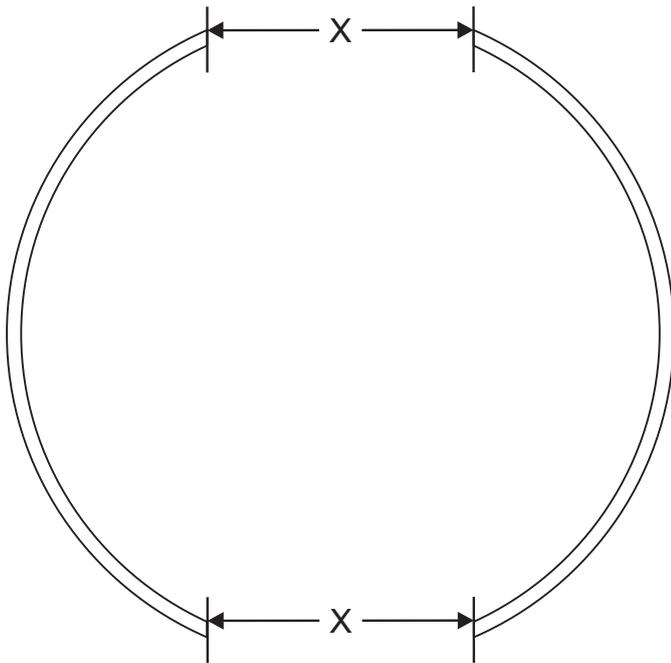

Fig. 39 Check clearance
- Check clearance X (Fig. 39) between drum wall segments at the entrance and exit against the drawing specifications.